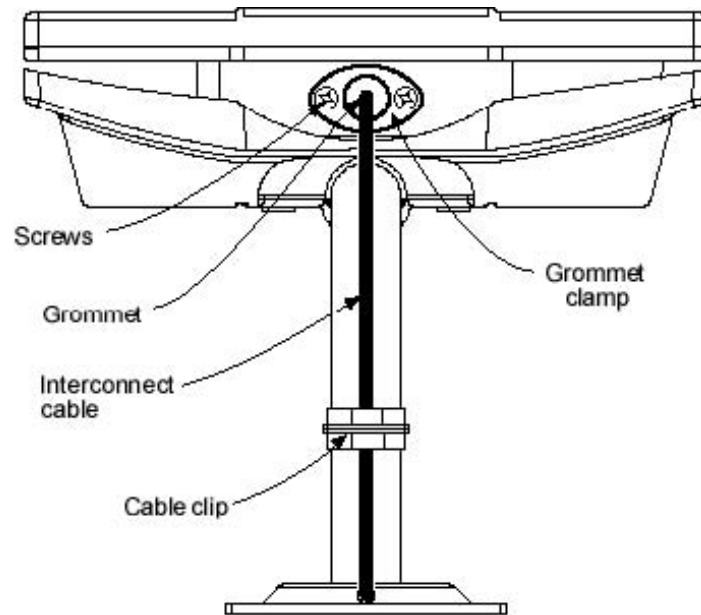

Figure 6-3 Interconnect Cable Installation to Outdoor Access Point - Bottom View
- 12) Secure the interconnect cable to the mounting pole with the cable clip as shown in Figure 6-3.